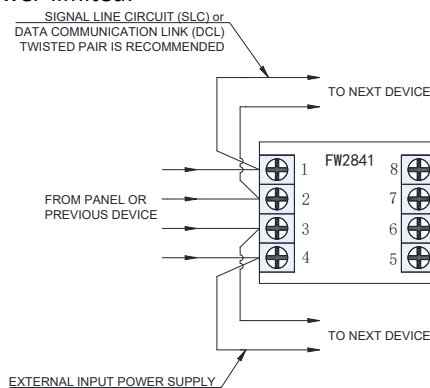

Figure 2 Wiring Diagram (SLC /DCL)
2. Connect the wires, see Figure 2. All circuits are power-limited.